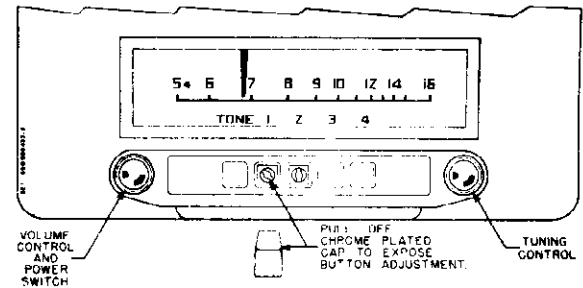

FIGURE 1. PUSH BUTTONS AND CONTROLS
Refer to Figure 1 for operating control locations.
2. Pull off the chrome plated push button caps from buttons 1, 2, 3 and 4, exposing the knurled metal buttons. See Figure 1.